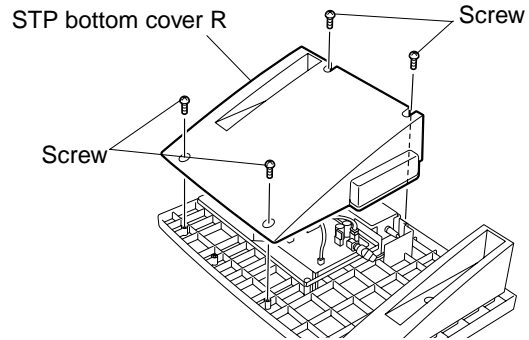

Fig. 6-9
4. Detach STP bottom cover R. (See Fig. 6-9)
4. Detach STP bottom cover. (See Fig. 6-9)
2. Detach STP bottom cover R. (See Fig. 6-9)
- Detach STP bottom cover R. (See Fig. 6-9)
- Detach STP bottom cover R. (See FIG. 6-9)